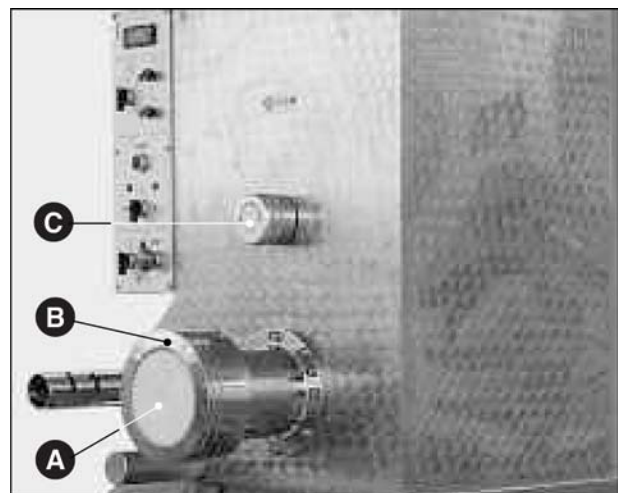

Fig. 2
- Then make sure that the plastic cap (Fig.2 A) which replaces the drawplate is correctly positioned and the ring nut (Fig.2 B) is well-screwed on.
- Finally block the mixer in its place, thanks to the head-knob (Fig.2 C).